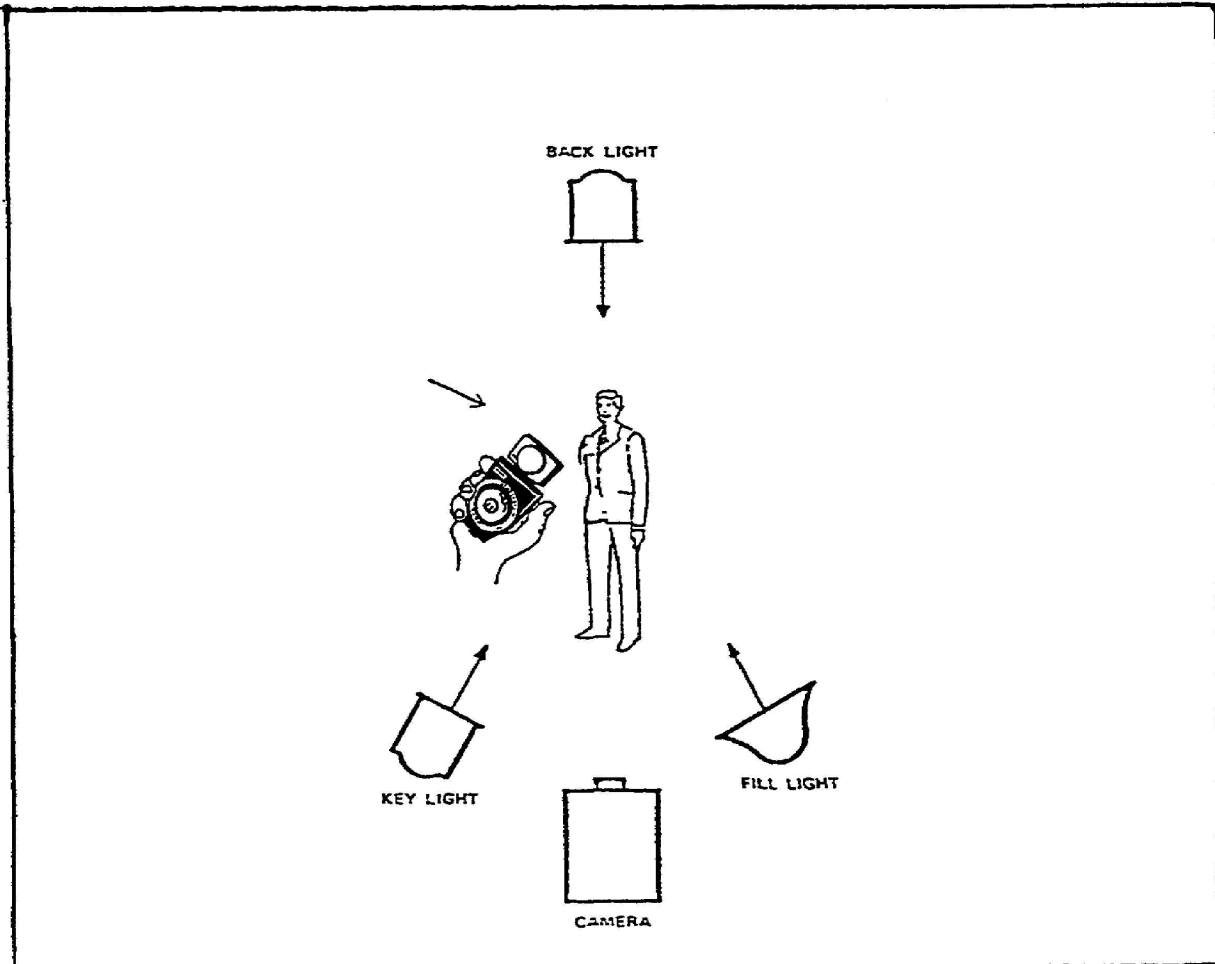

Figure 1-2
1. Incident light reading. Measuring the actual light falling on the subject is called "incident" light measurement. To take an incident light reading, a light meter is held near the subject, but the top of the light meter pivots, and should be facing the light source. The meter measures the amount of light falling on the subject. The incident light meter reading is the most commonly used method in television (Fig. 1-2).